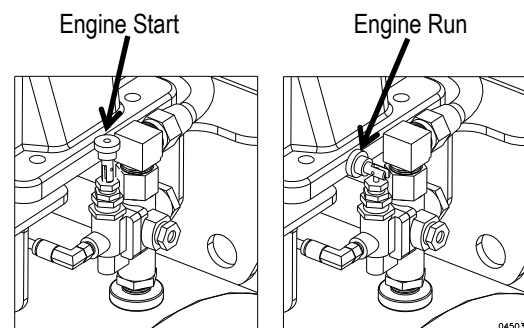

Figure 4
2. Turn the unloader to the engine START position. (Figure 4)